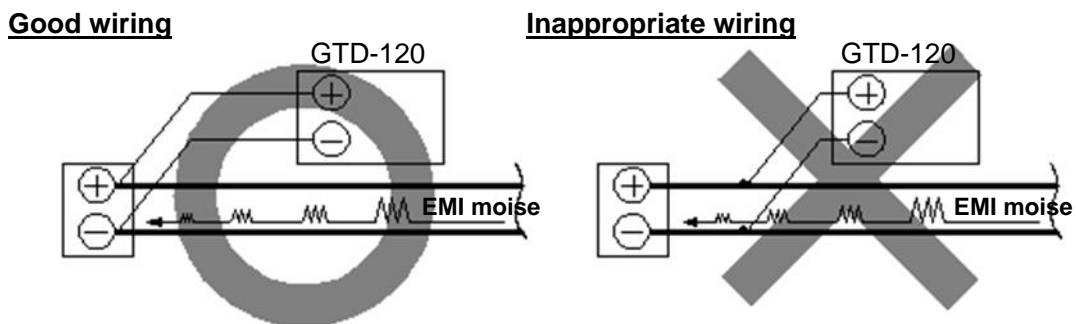

Fig. 16.1 Connection of Power Line
- (1) Keep the power cable as far away from the cables of other electronic equipment as possible.
- (2) The cabinet of Display unit shall be securely grounded to the hull, using the ground terminal on the rear panel.
- (3) If you connect the power cable directly to the battery, the interference from other electronic equipment is not subject to occurrence. (See Fig. 16.1.)